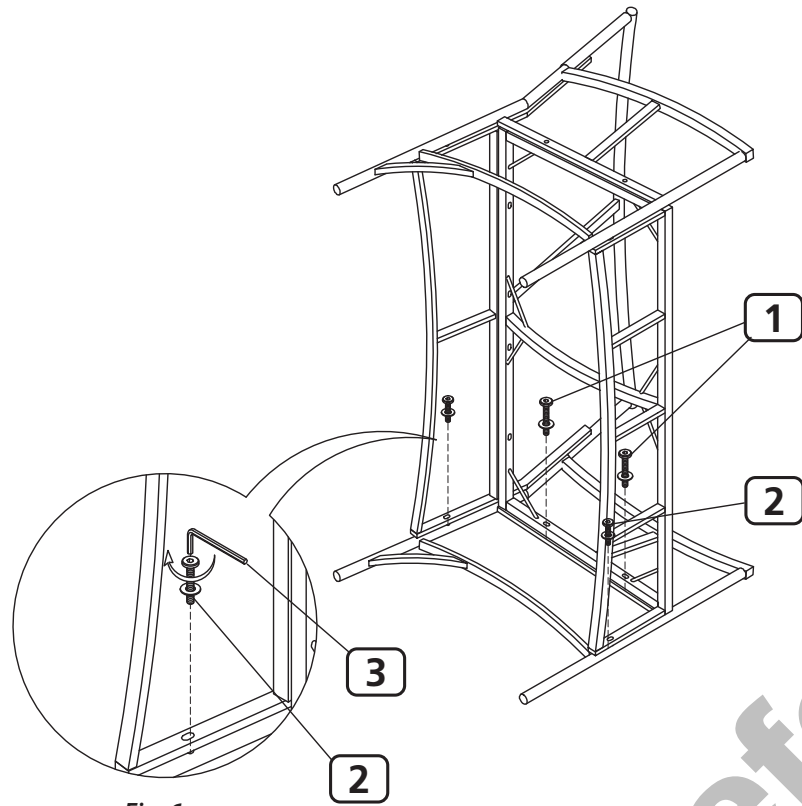

Fig. 6
Insert one M6x25 Bolt (2) with washer through eyelet on the bottom of frame of Sofa Back (E), and into the side of the back leg of Armrest (B), see Fig. 6. Tighten all bolts left loose during assembly process using Hex Key (3).